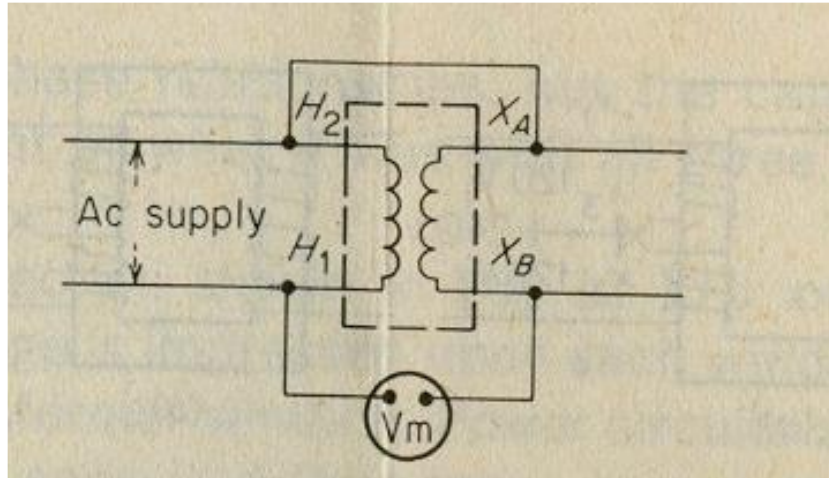

Figure 4: Connection for checking the polarity of a transformer
If the polarity of the transformer is not known, it may be determined by the test connections shown in figure 4. Here low voltage side terminals may be temporary marked as X_A and X_B as shown in figure.
1. Make connections according to the given circuit fig 4 for T1 and find out the polarity.
2. Make connections according to the given circuit fig 4 for T2 and find out the polarity.